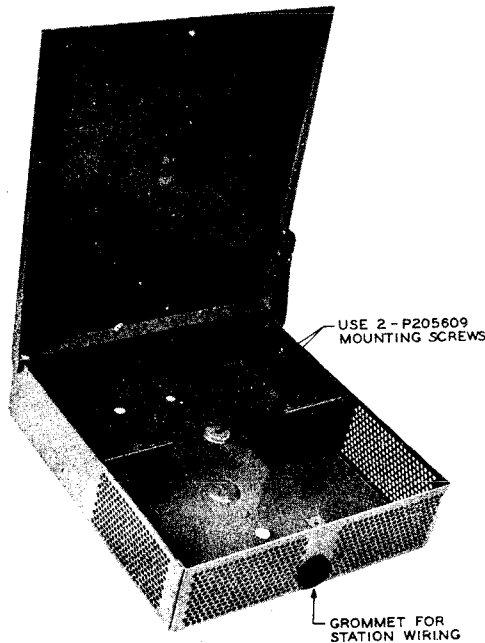

Fig. 3 – 169A Backboard
- (b) Mount the 592-type subscriber set with a 169A backboard (Fig. 3 and 4). Two P-205609 8-32 by 5/8-inch RH brass machine screws are furnished with the backboard.